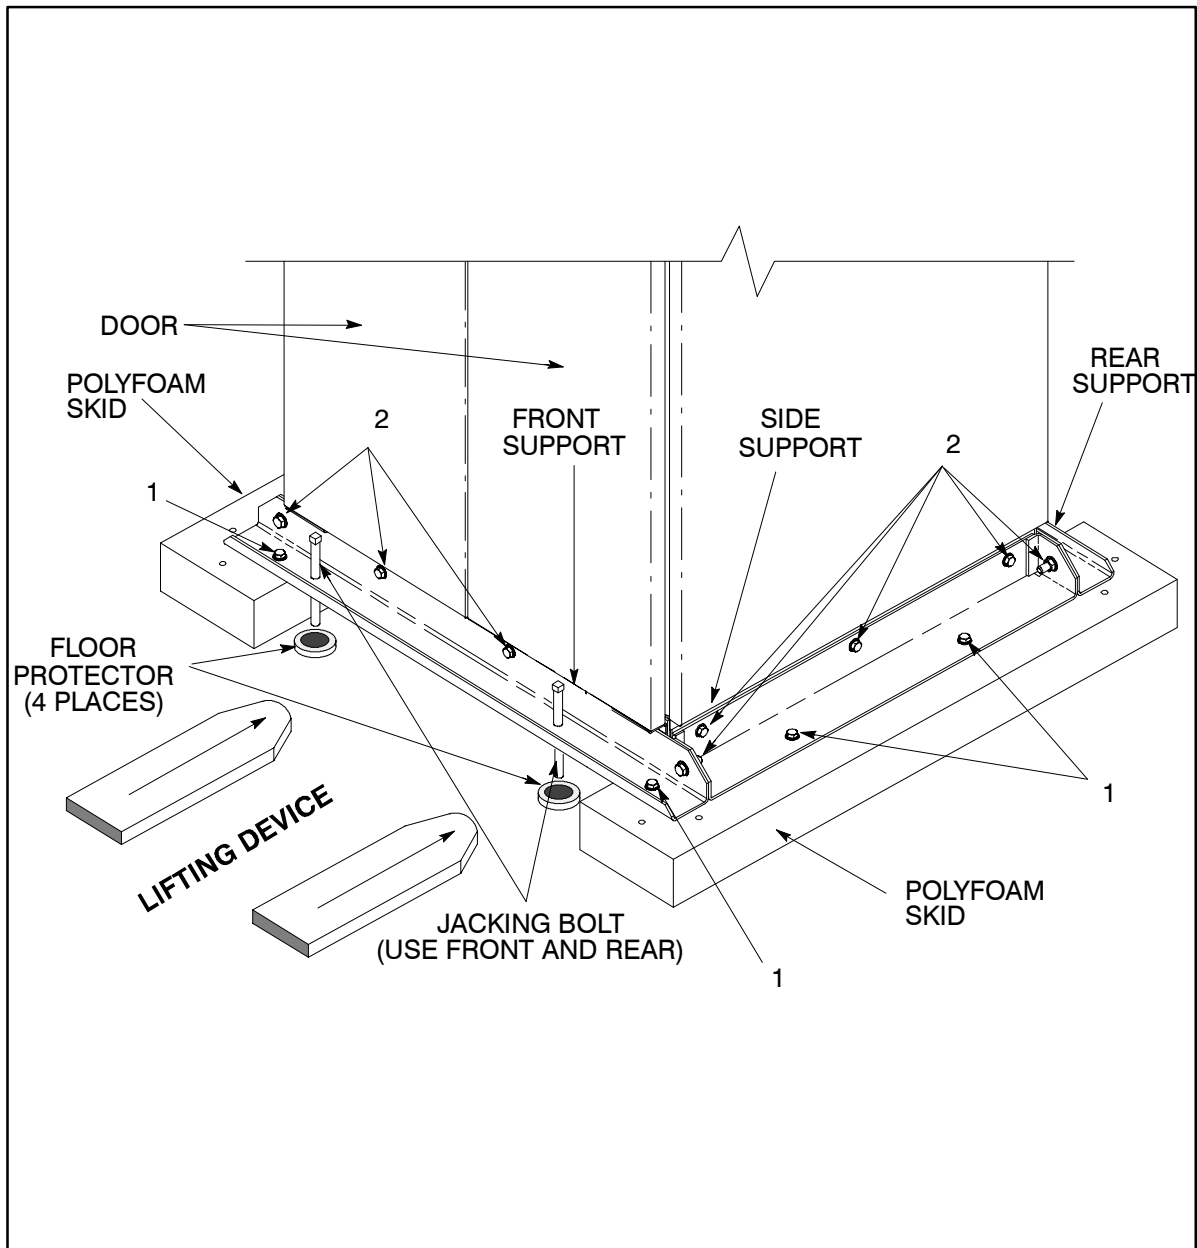

Figure 4. Detail of Shipping Supports
3. Loosen, but do not remove the hardware holding the plywood/polyfoam skids to the front and rear supports (labeled "1" in Figure 4 – 8 places).
8. Remove the hardware labeled “2” in Figure 4, holding the front, rear and side supports to the module base (14 places). Discard or recycle the hardware and support brackets in a responsible manner.